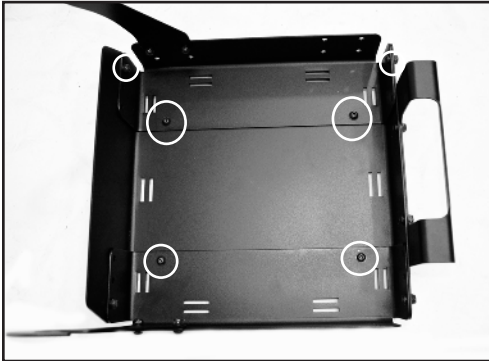

Fig. 122
1. Remove the width adjustment hardware (circled in Fig. 122 & 123) with 5/32" Allen wrench and 7/16" wrench.